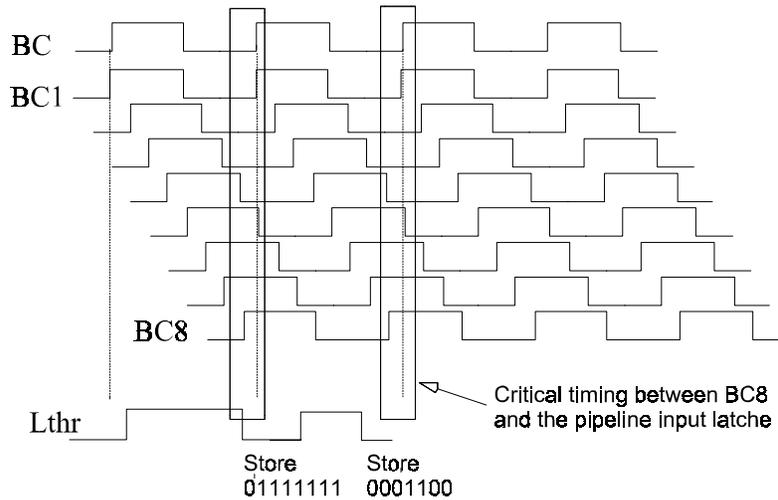

Figure 2-3 Time digitiser
2. Special care should be taken to avoid any ambiguity during the loading in the pipeline (see Figure 2-3 ) as one could easily introduce a 25 ns error if the phase between the BC8 signal and the pipeline load is not properly adjusted. We should not have any events for which a 25 ns error is introduced.